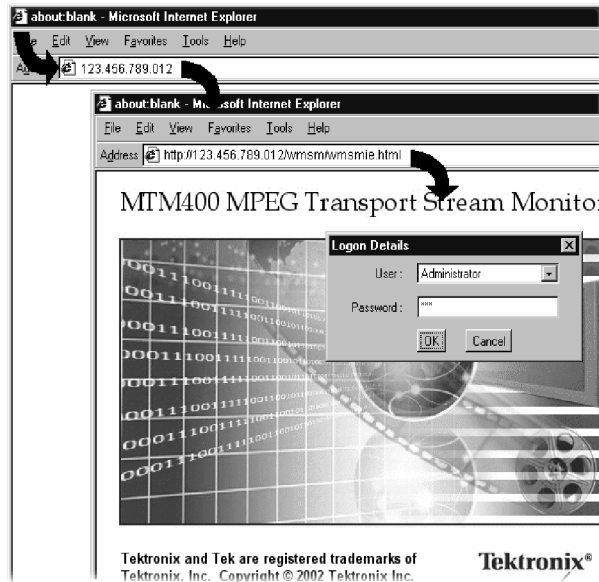

Figure 1: Logging On
3. The MTM400 splash screen appears, overlaid shortly thereafter by the Login Details dialog box as shown in Figure 1.